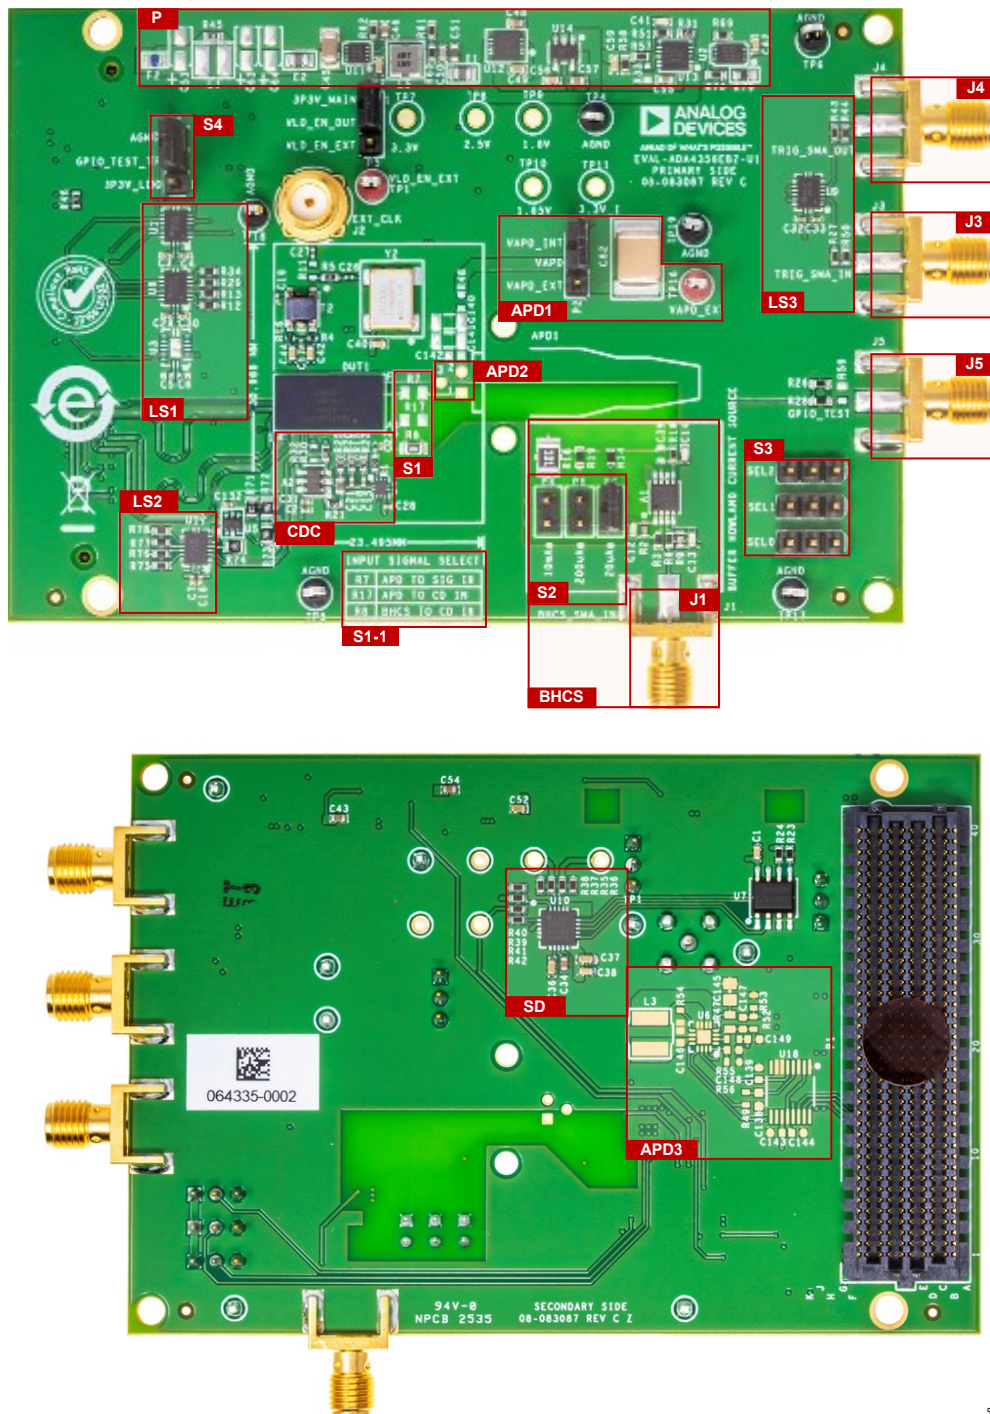

Figure 6. Key Features of the EVAL-ADA4356EBZ Evaluation Board (Front and Back Side View)
The EVAL-ADA4356EBZ evaluation board contains circuits that allow for the evaluation of the ADA4356's key features as well as eliminating the need for complicated test bench setup. Figure 6 shows the components of the EVAL-ADA4356EBZ's key circuits and features, their purpose is briefly described in Table 2 and explained in-depth in each feature's subsection.
A fuse is installed between the FMC connector and the rest of the EVAL-ADA4356EBZ's circuitry, serving as the board's primary line of defense against unwanted current surge in an event of unintended disruption in connectivity. The installed fuse, F0603E0R50FSTR, is a fast blow 500mA fuse in a 0603 SMT package, located in the upper corner of the board, designated as F2, as shown in Figure 6.
Both input options connect to the current divider circuit, which can be enabled to activate range extension, thus bringing down a high input current to the ADA4356's linear input current region. The input can be selected by installing one 0Ω resistor on either R7, R17, or R8; the input source selection table is printed on the board, as shown in Figure 6's S1-1 designation. The input path options are detailed in Table 5.
The current source available in the EVAL-ADA4356EBZ is configured as a BHCS using LTC6269, where one channel, amplifier A, is set as a difference amplifier, and the other channel, amplifier B, is set as a buffer. The circuit accepts a voltage input through the J1, an SMA port, as shown in Figure 6, and produces a scaled current output based on selected setting.
As shown in Figure 6 and Figure 8, the EVAL-ADA4356EBZ has three different levels of current that can be selected by installing a jumper on either of these headers: (1) 20µA for P8, (2) 200µA for P6, and (3) 1mA for P4. Table 6 summarizes the BHCS configuration. These currents assume an input of 5V at J1. Higher or lower voltage inputs produce different output currents than labeled.
The EVAL-ADA4356EBZ has a footprint available for a three-pin avalanche photodiode, located at designator APD2 from Figure 6, as well as provisions for an internally sourced APD bias based on the footprints and pin configurations of LT3571 (a boost converter) and AD5142 (a digital potentiometer), located at designator APD3 in Figure 6.
Along with the primary digital control for gain selection, the EVAL-ADA4356EBZ also provides an analog way to select the required gain setting. The gain selection section designated as S3 in Figure 6 allows for manual control once populated with three sets of 3-pin headers. Table 7 shows how these pins can be configured to enable the required settings.